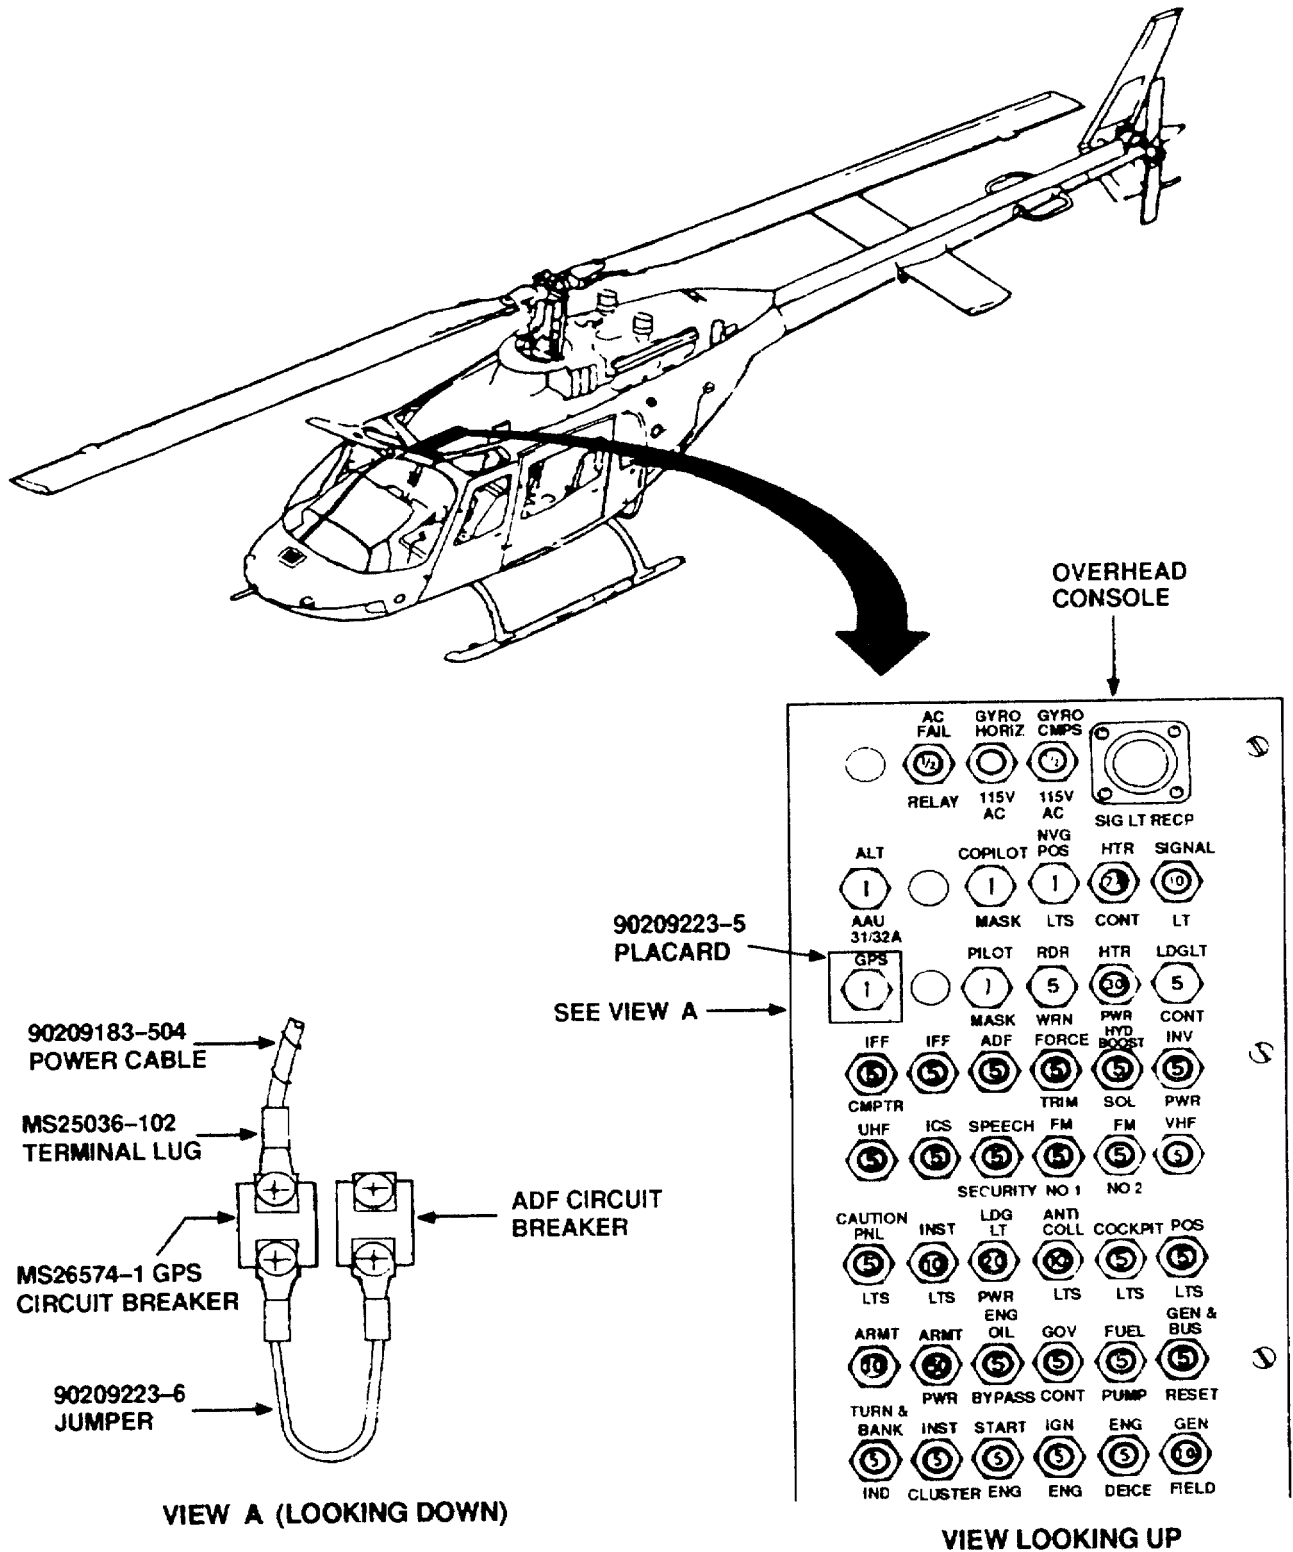

Figure 3. GPS Power Cable and Circuit breaker Installation
- l. Remove jumper wire (P/N 90209223-6) from line side of ADF circuit breaker and line side of GPS circuit breaker (Figure 3, View A).
- n. Remove circuit breaker (PIN MS26574-1) from overhead console (Figure 3).
- o. Remove GPS circuit breaker (P/N MS265741) placard from overhead console (Figure 3).